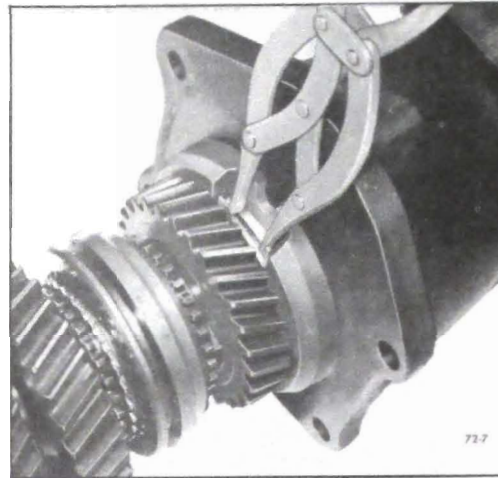

Figure 72-7-Removing Rear Bearing Retainer.
10. Using snap ring pliers, expand snap ring at rear of bearing retainer which retains the rear bearing to the retainer. See Figure 72-7. Remove rear bearing retainer.